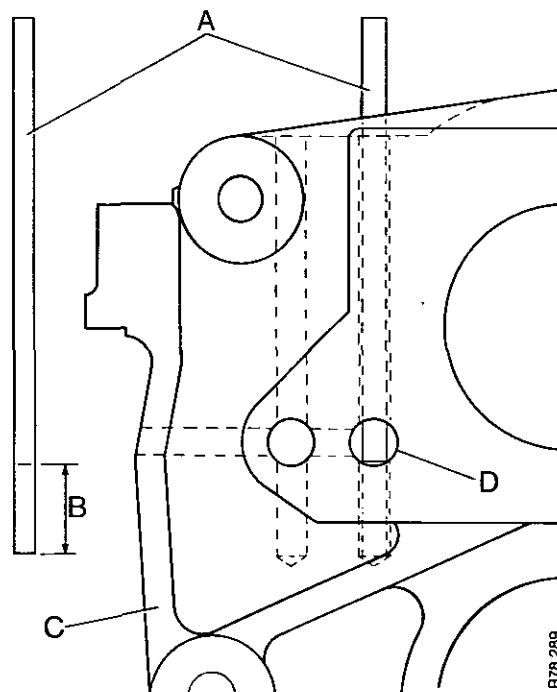

FIGURE 59. CHECKING DEPTH OF DETENT SPRING HOLES
7. Measure the depth of the spring holes using the following method, see Figure 59.
- (a) Use a piece of metal rod A, Figure 59, approximately 152 mm long and 9.5 mm diameter.
- (d) Look through the selector rod hole D. The mark must be in line with the lower edge of the selector rod hole. See Figure 59.